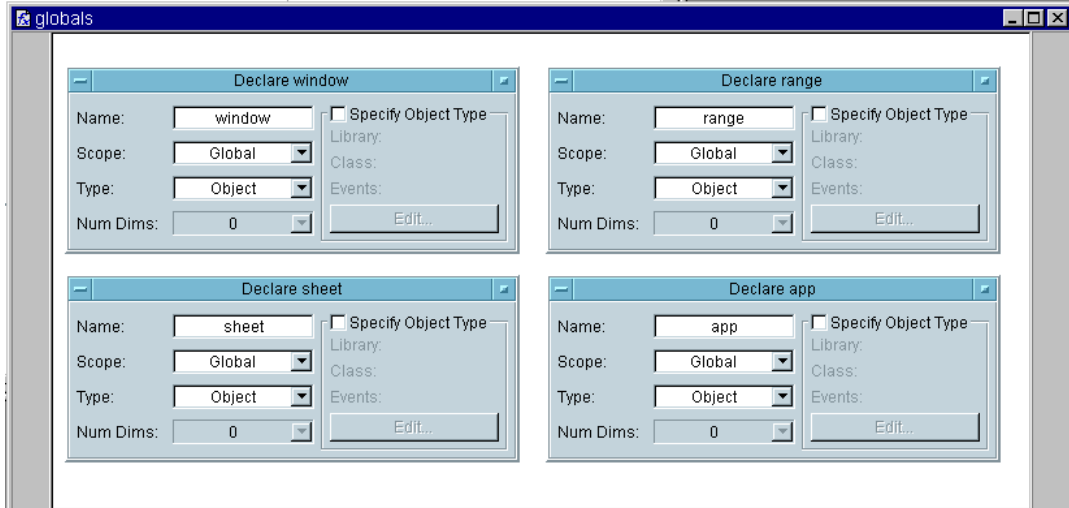

Figure 6-5. The Globals UserFunction
4. Clone this object three times, and rename the other objects as follows: `app`, `range`, and `window`. Size and move the `globals UserFunction` below `Main`. It should look like Figure 6-5.
5. After you have compared the entries to Figure 6-5, iconize the four objects.